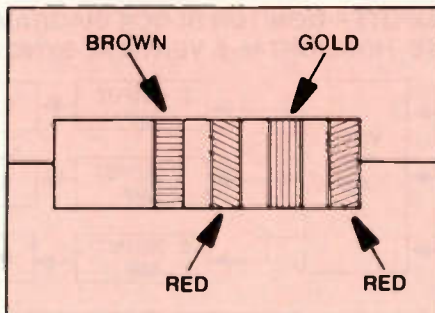

Figure 6.
8. What is the biggest value the resistor in Figure 6 can have and still be in tolerance?